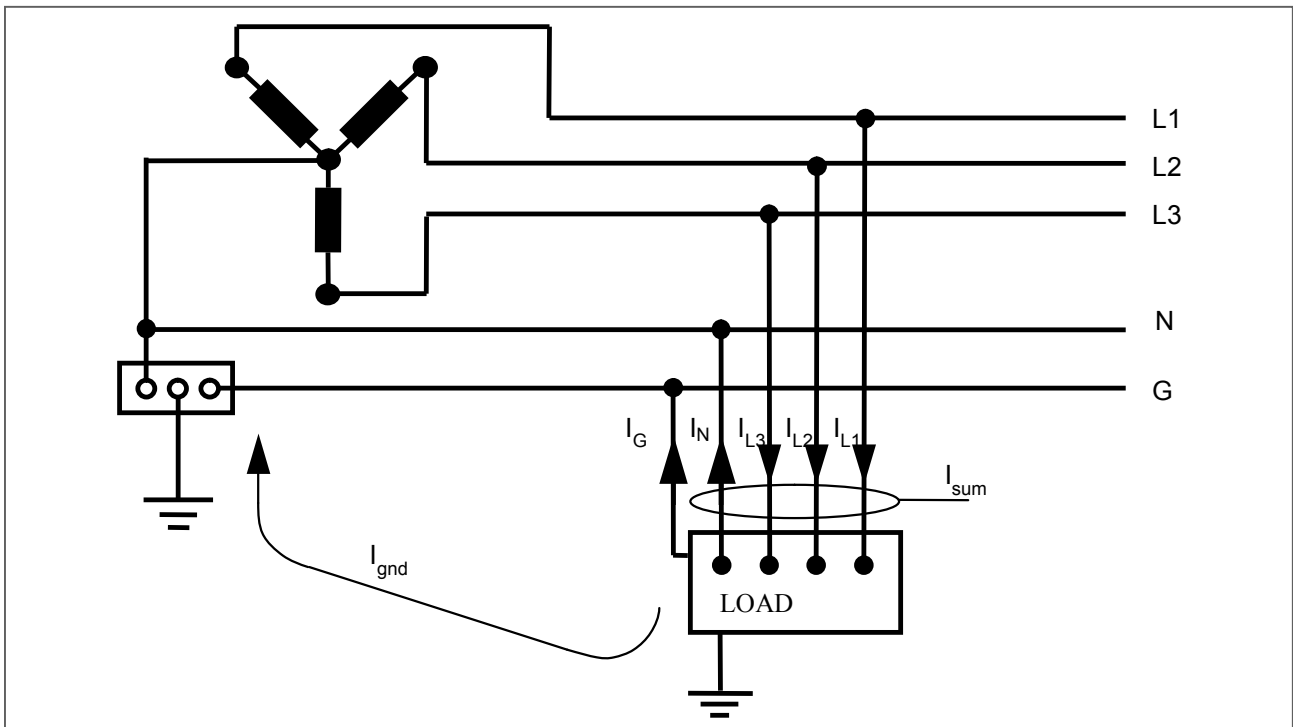

Figure 1.1. The principal structure of the grounded distribution network and the measuring of the sum current
In a "clean" five-conductor (TN-S) distribution network the returning current flows through the neutral conductor (N) or the phase conductors (L1, L2, L3) back to the zero point of the distribution transformer (figure 1.1). If there are faults in the distribution network the neutral conductor is in partial or complete short cut with the ground conductor (G) and the conductive parts of the building.